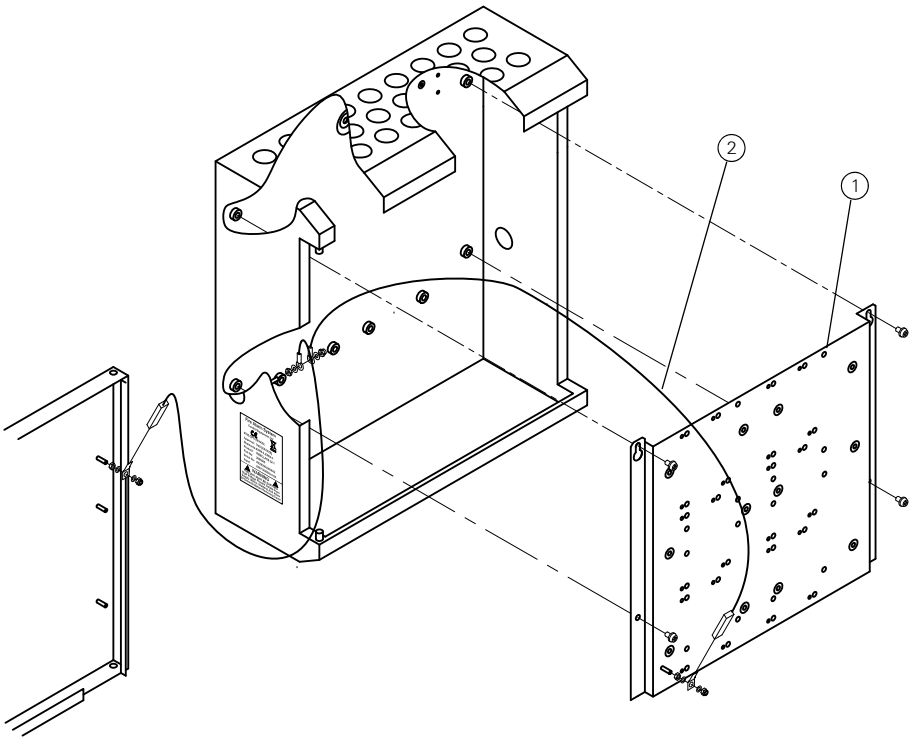

Fig. 7: Backplate Fitting
- b) Offer up the module to the backplate, in the approximate final position. The backplate is Item 1 in Figure 7. Now adjust the position to find a set of large (4.8mm diameter) backplate holes through which to push the pillars.
- c) Offer up the modules to the backplate, in the approximate final position. The backplate is Item 1 in Figure 7. Now adjust the position to find a set of small holes in the backplate through which to fit the spacers.
- 5 Mount the backplate to the rear of the housing. Use the appropriate screws in the threaded bosses of the housing. See Figure 7.
- 6 Make sure the earth wire is connected (Item 2 in Figure 7). This connects between the stud in the side wall of the housing, and the tag on the backplate.